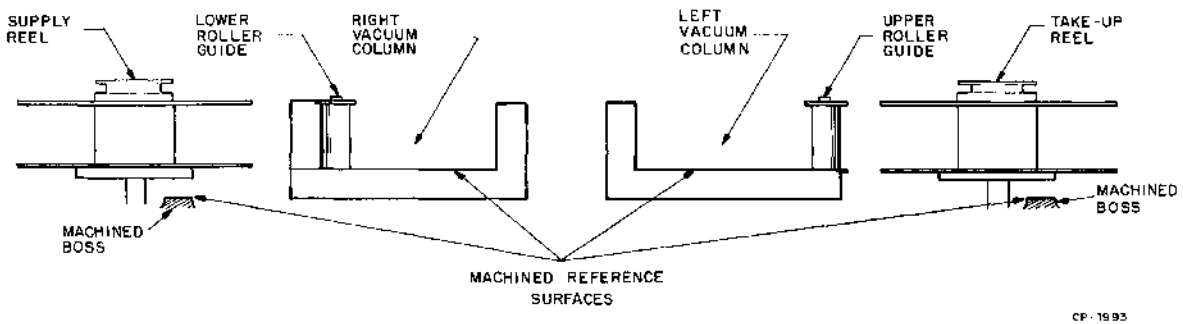

Figure 5-38 Machined Reference Surfaces Used to Establish Tape Path Plane
9. The reel hubs and roller guides are now set in the same plane as the vacuum columns. (See Figure 5-38.)